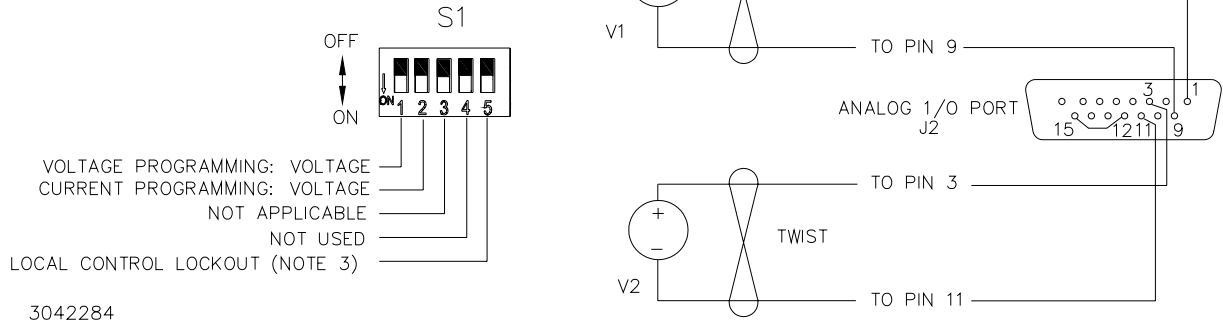

FIGURE 3-16. ANALOG PROGRAMMING OF OUTPUT VOLTAGE OR CURRENT USING VOLTAGE
Figure 3-16 is a simplified diagrams of the KLP showing the switch configuration and external connections required for analog programming using an external voltage.
3. Configure Analog I/O Port J2 (Figure 2-2) by referring to Table 2-7 and Figure 3-16 (grounding J1 pin 12 enables analog programming).
With the power supply configured as shown in Figure 3-16 and assuming the load causes the power supply to operate in voltage mode, varying source voltage V2 from 0 to maximum causes the output voltage of the power supply to vary linearly from 0 to full scale, while V1 can be used to adjust the current limit. When the power supply operates in current mode, V2 will adjust the voltage limit and V1 will adjust output current.